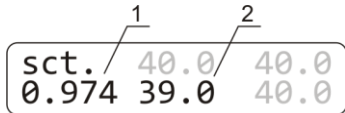

Figure 3. Changing the coefficient:
- 6.4.6. Using the **▲** and **▼ T, °C** keys, change the calibration coefficient (fig. 3/1) so that the new temperature value (fig. 3/2) corresponds to the independent sensor temperature. In our example, the calibration coefficient will be 0.974.